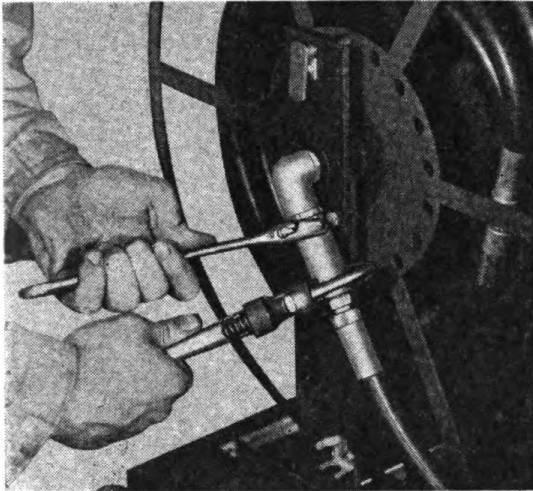

Figure 60
(1) Detach hose from swivel (See Figure 60) and unscrew swivel from pump, reel, or valve, whichever the case may be.